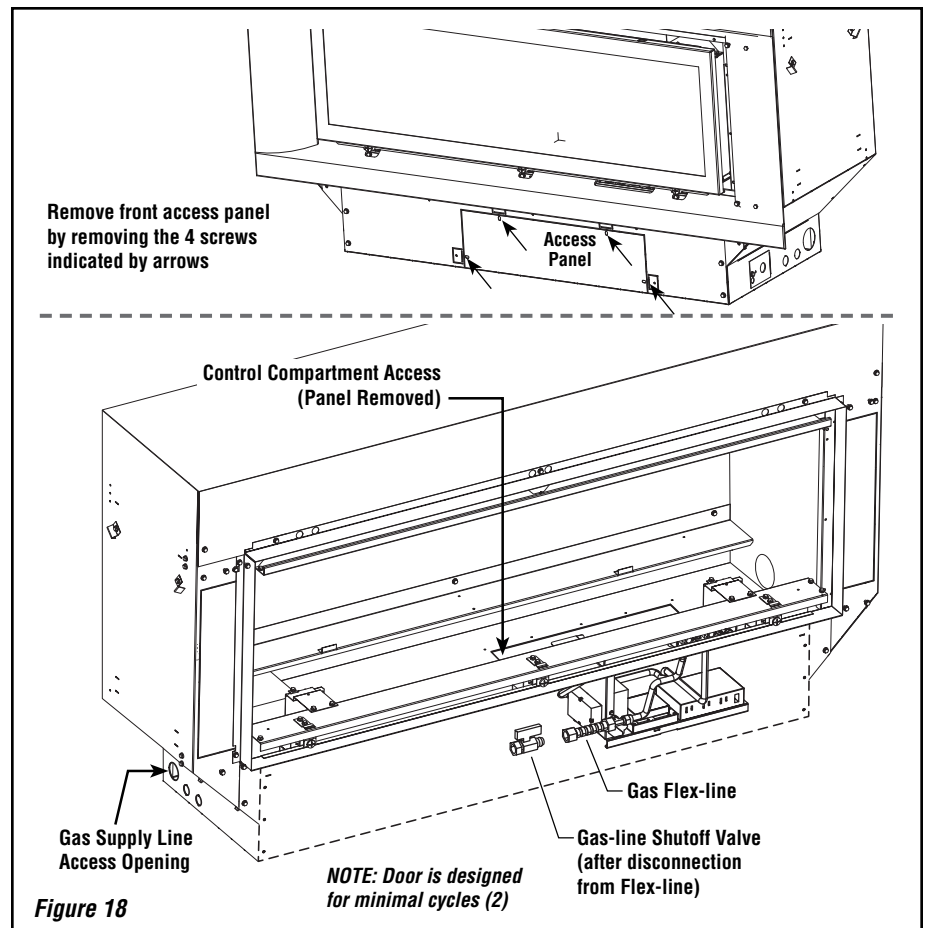

Figure 18
6. Control compartment access panel (in firebox bottom; see **Figure 18**).
1. Refer to **Figure 18**. Route the gas supply line into the firebox through the **gas supply line access opening** to the point it will connect to the **gas flex-line** and **gas-line shutoff valve**.